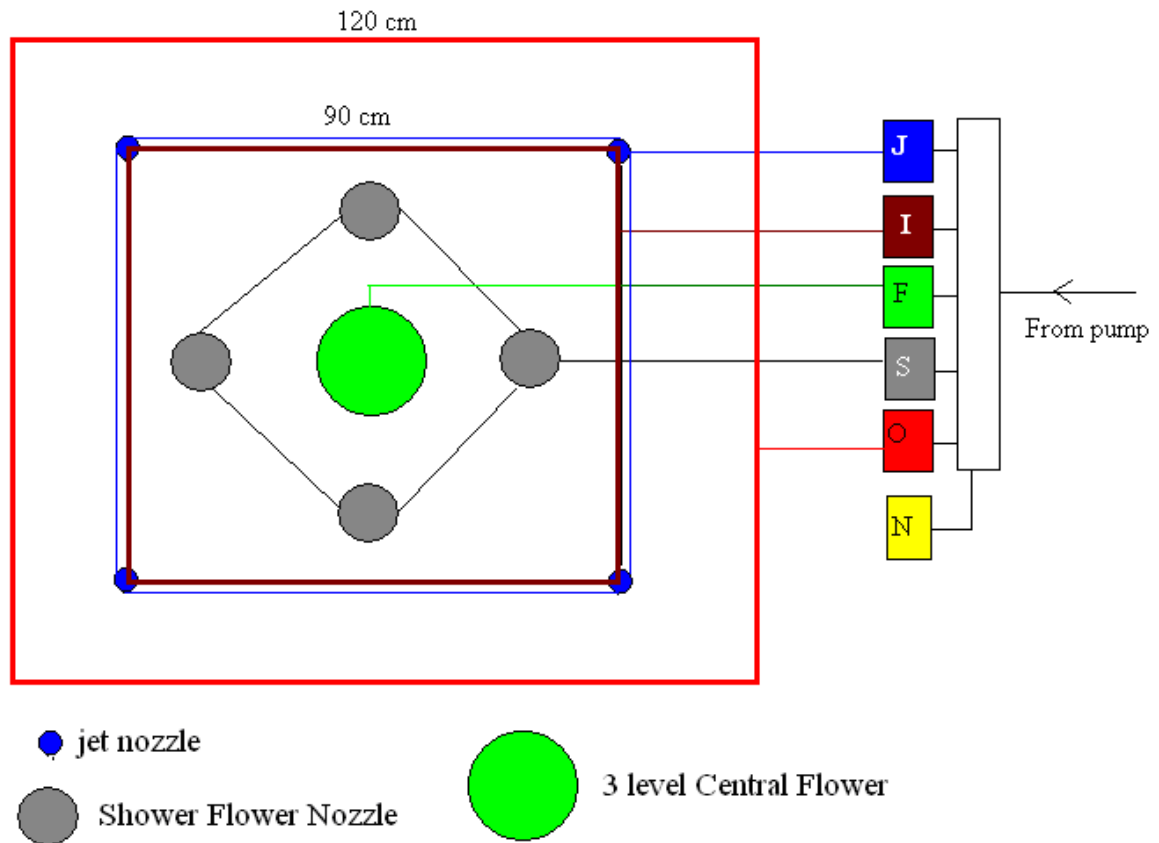

Fig 1: Fountain schematic
- Schematic of the fountain that will be used for this contest is shown in fig 1. A photograph of the fountain shall be posted shortly.